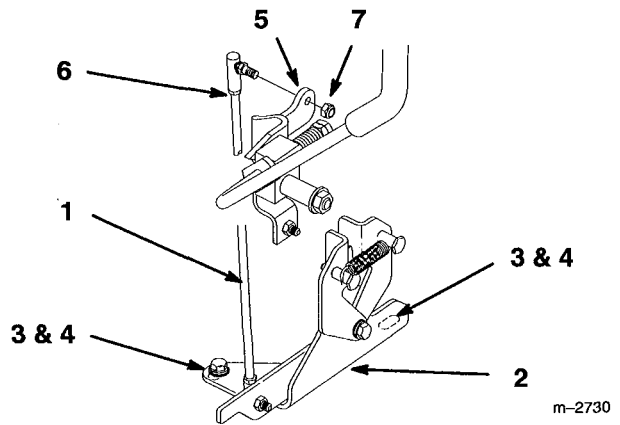

Figure 30
4. If either wheel rotates on its own, remove link rod between traction control and neutral bracket (Fig. 30).
5. Loosen bolts in slotted hole of neutral bracket. Move neutral bracket, front or rear, until wheel rotation stops (Fig. 30). Tighten bolt securely.